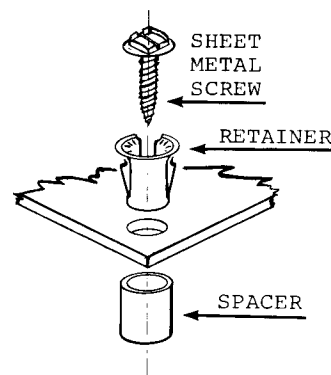

Figure 6 - PC Board Mounting
3. Insert the four retainers supplied with the blanker into the four mounting holes in the assembly from the top as shown in Fig. 6. Push four spacers over the retainers from the bottom. Insert four #4 sheet metal screws through the retainers from the top.
Model 150 is constructed using removable printed circuit assemblies that are interconnected with plug-in cables. The assemblies are mounted to the chassis on both top and bottom surfaces using three or more stand-off spacers. Refer to Figure 6 for mounting details.